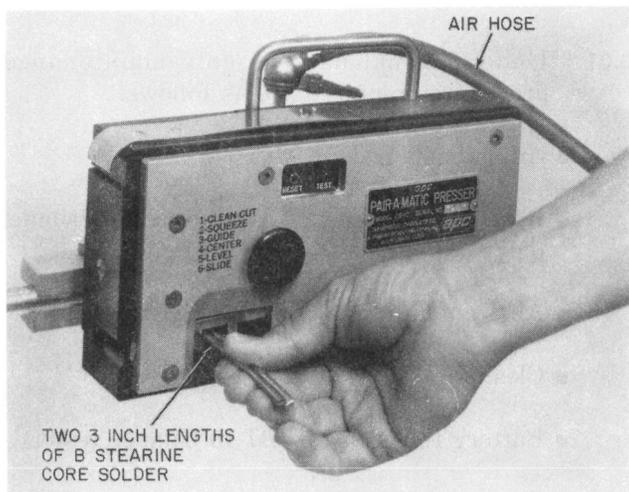
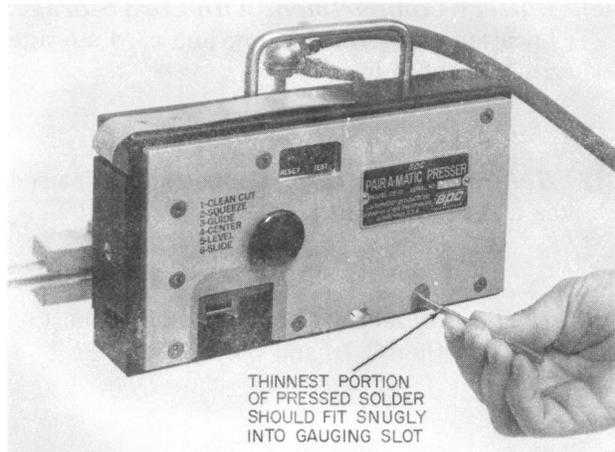

Fig. 7—Solder Test—Pressing B Stearine Core Solder
Fig. 8—Solder Test—Gauging Pressed B Stearine Core Solder
3.04 Test the connector presser for adjustment by inserting two pieces of B stearine solder into the connector area (Fig. 7) and pressing as for a normal pair-a-matic operation. The thinnest portion of the pressed solder should fit *snugly* into the gauging slot (Fig. 8). If the solder will not enter the slot or if it fits the slot loosely, the presser requires adjustment.